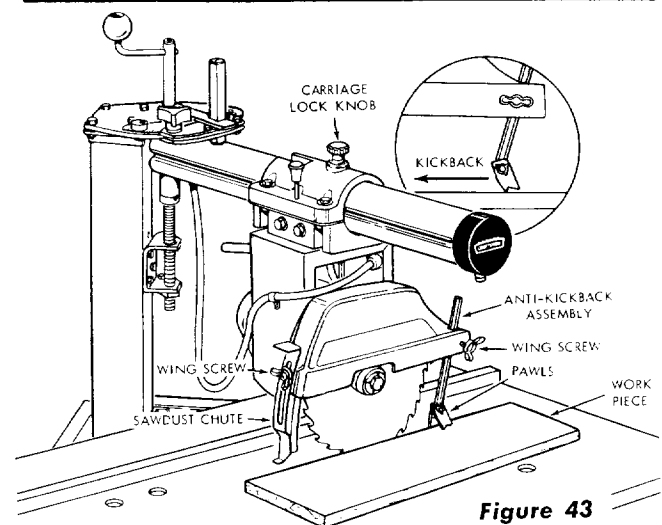

Figure 43
- b. The chute is secured to the guard with a wing screw (figure 43) and is adjustable to accommodate various board thicknesses.
2. For all rip-cutting operations (those in which the carriage is locked and the workpiece is fed along the rip fence to the saw blade) both the sawdust chute (figure 43) and the pawls of the anti-kickback assembly must be lowered to help keep the workpiece flat on the table — and to prevent kickback (which could otherwise occur should the blade bind in the workpiece).
- a. Position the saw for either in-rip or out-rip as desired, with the radial arm indexed at 0° and locked. (Figure 43 shows the saw in the out-rip position.)
- f. Place the board to be ripped (workpiece) alongside the saw blade (figure 43).
- g. Grasp the anti-kickback rod near the top and loosen the wing screw that secures the rod in the guard. (See figure 43.) Raise or lower the assembly until the anti-kickback pawl nearest the saw blade rests on the top surface of the workpiece, with the bottom edge of the pawls angled slightly downhill to the top surface of the workpiece, as shown in figure 43. Tighten the wing screw.